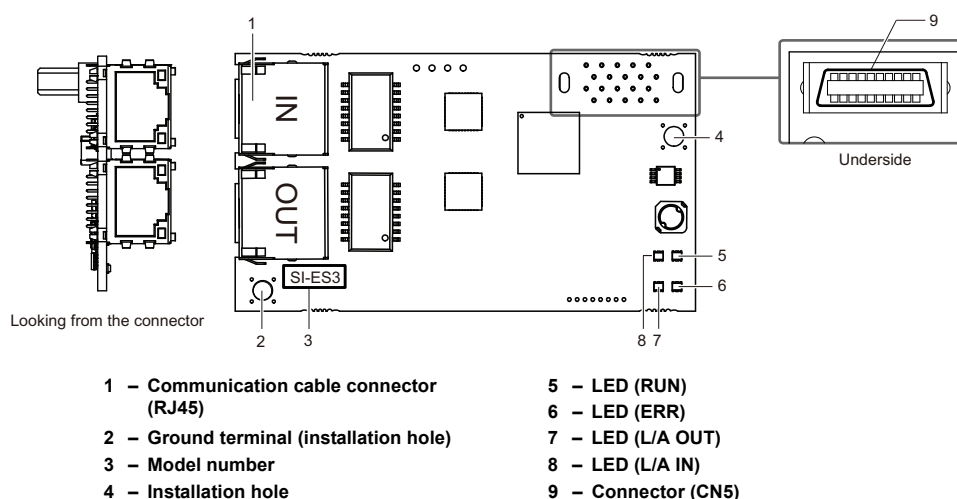

Figure 2 Option Card
- Verify receipt of the correct model by checking the information on the PCB (see *Figure 2*).